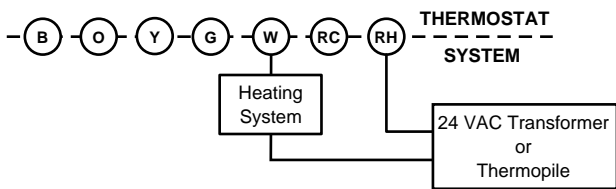

Figure 3. Typical wiring diagram for heating only, 2-wire, single transformer systems or millivolt systems
2. Connect wires beneath terminal screws on base using appropriate wiring schematic (see figs. 3 through 10).